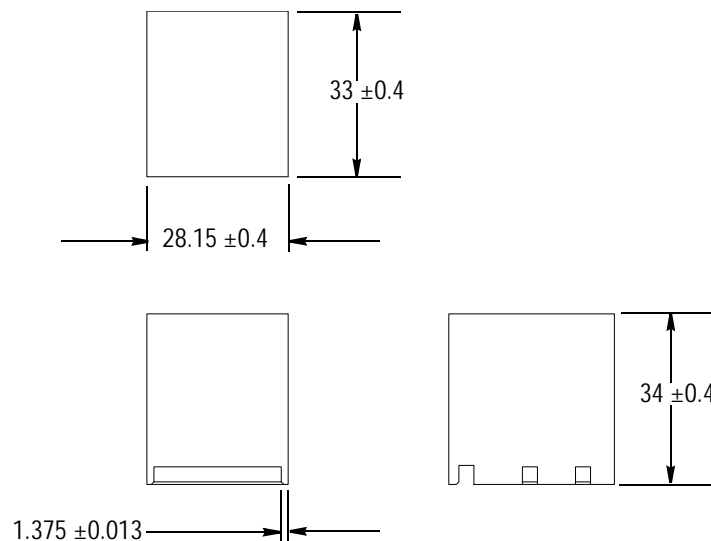

Figure 3
The seating tool kit is assembled and inspected before shipment. It is recommended that the seating tool kit be inspected immediately upon arrival at your facility to ensure that it has not been damaged during shipment, and that it conforms to the dimensions provided in Figure 3.
- Changed dimension in Figure 3